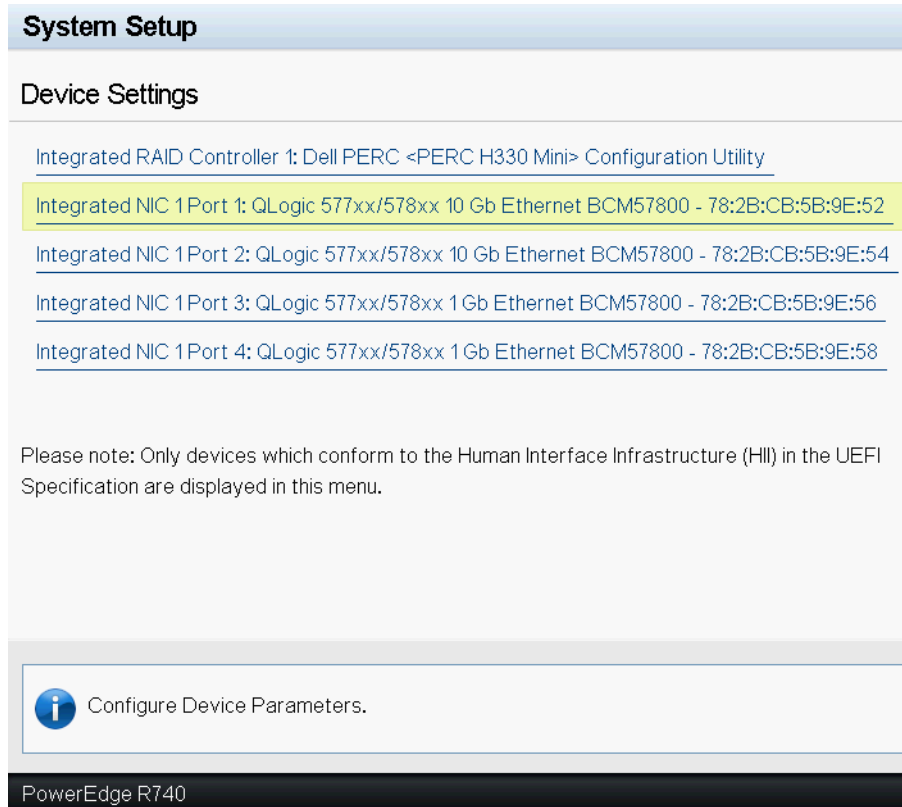

Figure 6-3. Device Settings
3. Select the device on which you want to change MBA settings (see Figure 6-3).